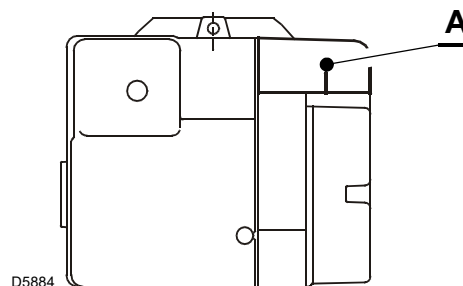

Fig. 9
In case of CF applications, the burner shall not operate without protection (A)(Fig. 9) of the suction inlet.